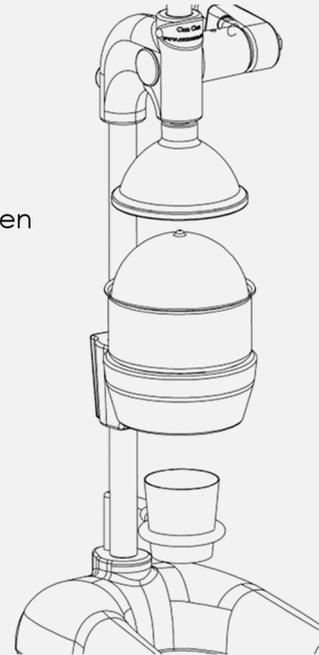

Figure 3
Cut the fruit in half the filter (12) by averaging over sheep (Figure 3).